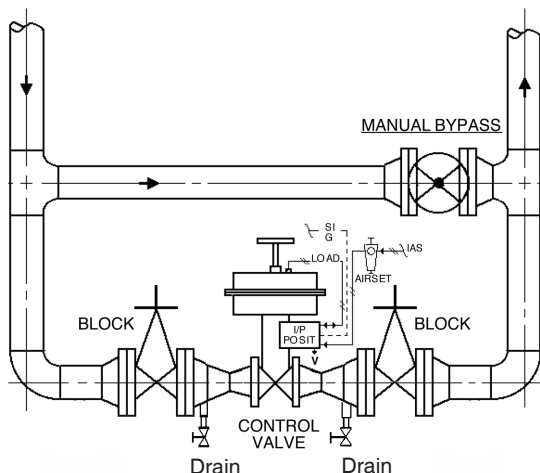

Figure 2: Control Valve Drain Locations
2. Recommend startup to be in a “manual” mode. This procedure assumes double block (isolation) and bypass valves for the “control valve station”. See Figure 2.